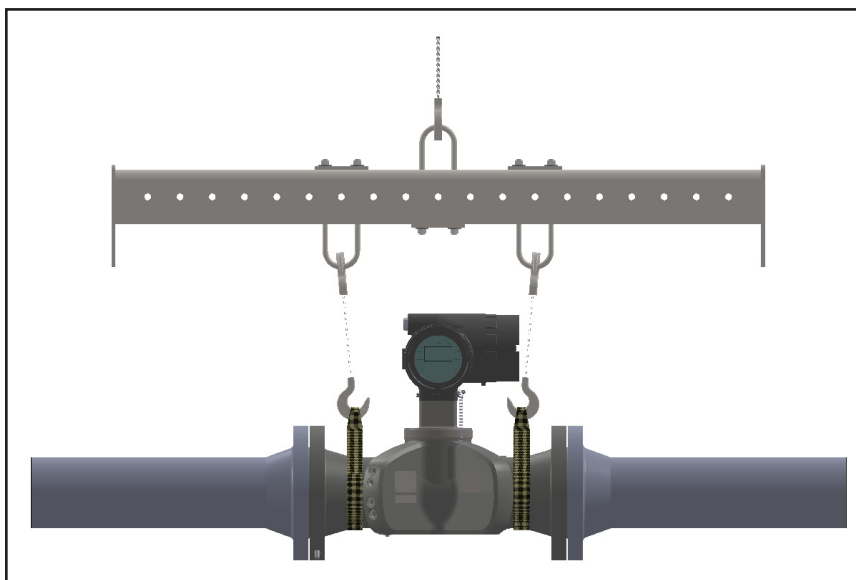

Figure 7: Lifting Strap Locations
- Make sure the *Sentinel LCT8* is oriented with the flow transmitter in a vertical position at the top, as shown in *Figure 7* below.
WARNING! To avoid possible strain, refer to the *Sentinel LCT8* label for the assembly weight, use a properly-rated lifting assembly, and place the lifting straps in the indicated locations (see *Figure 7* on page 8). **Never stand below any object being lifted!**